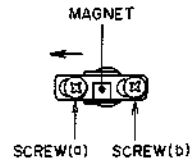
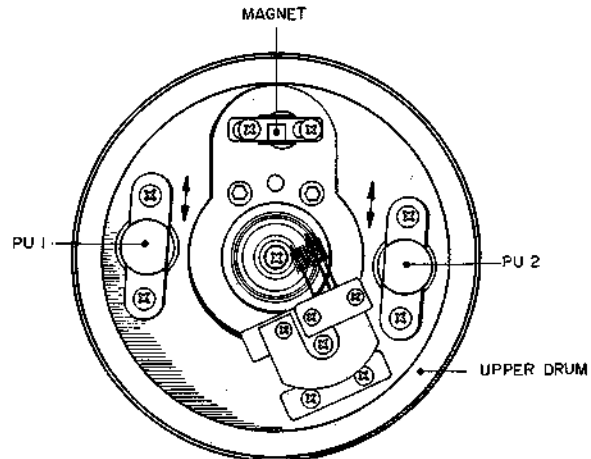

Fig. 4-21
Fig. 4-22
- 1) Turn the magnet fully counterclockwise and secure it by tightening screws (a) and (b) as shown in Fig. 4-21 and Fig. 4-22.